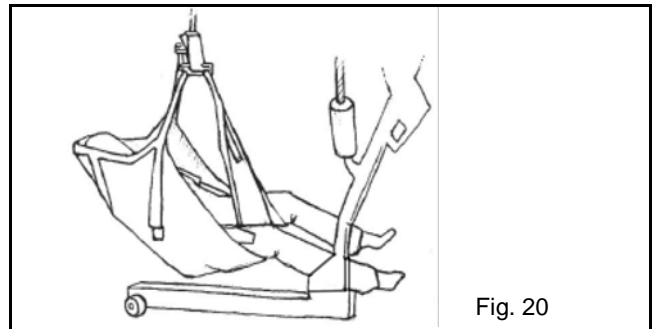

Fig. 20
- 8) The resident/patient can now be lifted. Raise the lift until resident/patient is almost clearing the floor and smooth out any "bunching" under the body to improve comfort (see Fig. 20).